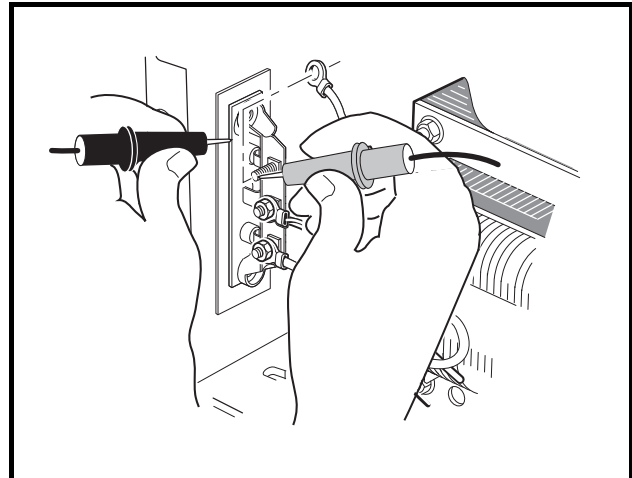

Figure 8-11 Diode Test – Probes Reversed
5. Reverse test probes and check each diode again and note the reading (**Figure 8-11, Page 8-17**). A diode is designed to conduct current in one direction only. If a diode conducts current (shows continuity) in both directions, the entire heatsink with diodes must be replaced. If a diode does not conduct current (does not show continuity) in either direction, the entire heatsink must be replaced.